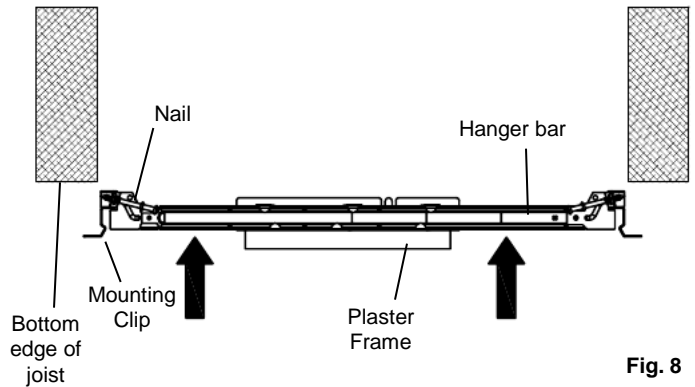

Fig. 8
- Raise the plaster frame and hanger bar assembly to the desired location between the two ceiling joists. Adjust the width of both hanger bars to the distance between the joists. Position the assembly so that the mounting clips of the hanger bars cup underneath the bottom edges of the joists. Hammer down the nails of the hanger bars into the joists to secure the assembly into place. (Fig. 8)